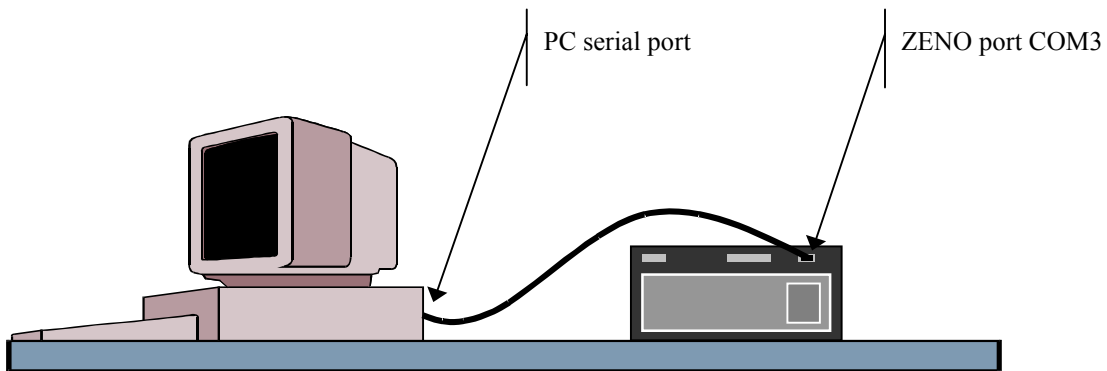

Figure 2-2. Connecting the ZENO[®]-3200 to your PC.
2. Using the interface cable supplied by Coastal Environmental Systems, connect the computer's RS-232 serial port to the DE-9 (9-pin, 2-row connector) located at the top of the ZENO[®]-3200 faceplate and termed COM3 (refer to Figure 2-2).